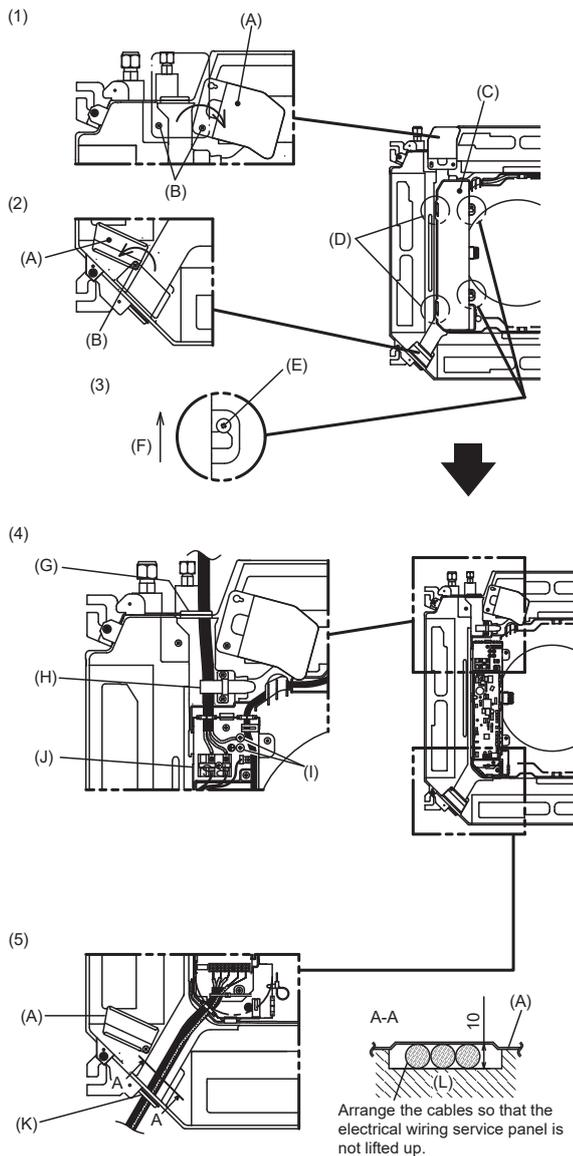

Fig. 5-1
### 5.1. Indoor unit (Fig. 5-1)
- Loosen the two screws securing the electrical wiring service panel, and then turn the electrical wiring service panel. [Fig. 5-1 (1)]
- Loosen the one screw securing the electrical wiring service panel at the cable entry (remote controller cable and indoor-outdoor connection cable), and then turn the service panel to the position shown in the diagram. [Fig. 5-1 (2)]
- Loosen the two screws securing the electrical box cover, then slide the electrical box cover. [Fig. 5-1 (3)]
- Pass and wire the power cable and the earth cable through the wiring entries given in the diagram. [Fig. 5-1 (4)]
- Pass and wire the remote controller cable and the indoor - outdoor connection cable through the wiring entries given in the diagram. [Fig. 5-1 (5), Fig. 5-2, Fig. 5-3]